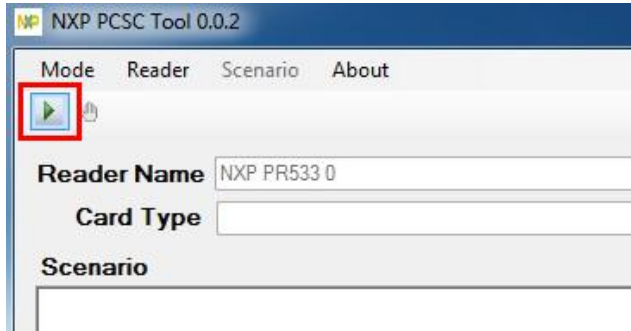

Figure 3-9: NXP PCSC Tool – Read RFID Card
Step 8: Click the Arrow button shown in **Figure 3-9** to read RFID card.